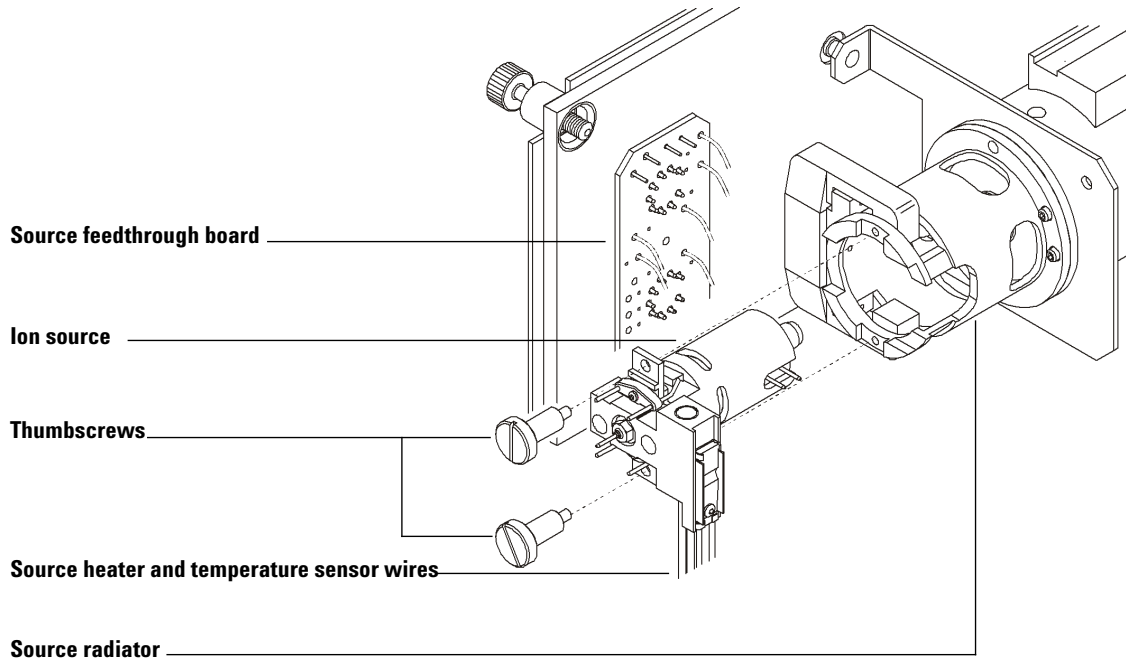

Figure 32 Removing the ion source
- 3 Disconnect the seven wires from the ion source. Do not bend the wires any more than necessary (Figure 32 and Table 22).